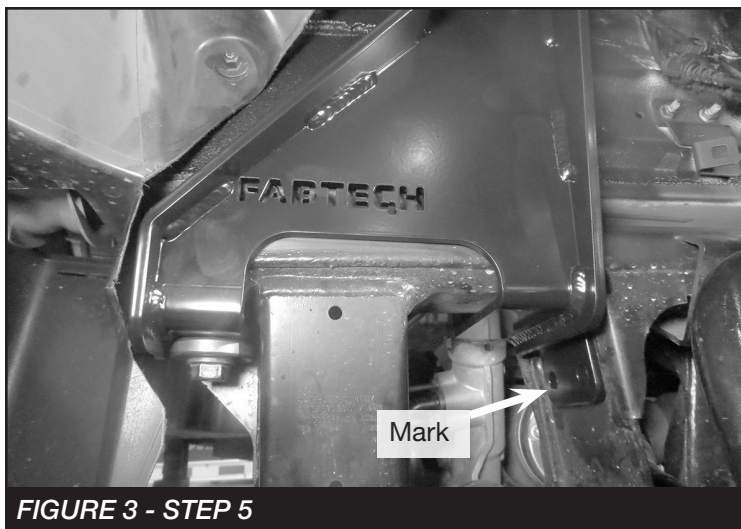

FIGURE 3 - STEP 5
5. Install FT19003 (Driver Upper Mount) using the factory bolt. Then, using the new Fabtech mount mark the two holes on the frame. **SEE FIGURE 3**